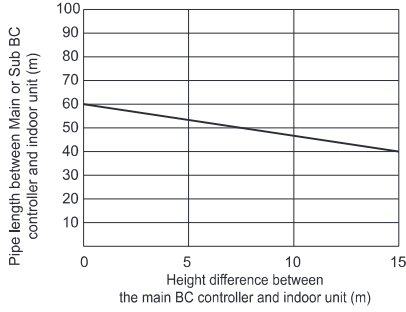

Fig. 1
- *2 Refer to Fig. 1. (However, when P/M200 or P/M250 model of indoor unit is connected, the maximum allowable distance between BC controller and farthest indoor unit is 40 m.)
- *3 When the piping length or the height difference exceeds the restriction specified in Fig. 1, connect a sub BC controller to the system. The restriction for a system with a sub BC controller is shown in Fig. 2. When a given system configuration falls within the shaded area in Fig. 2, increase the size of the high-pressure pipe and the liquid pipe between the main and sub BC controller by one size. When using P/M32, P/M40, P/M50, P/M100, or P/M125 model of indoor units, increase the size of the liquid branch pipe between the sub BC controller and indoor unit by one size. When using P/M140 or larger model of indoor units, the restriction shown in Fig. 1 cannot be exceeded.
***3** When the piping length or the height difference exceeds the restriction specified in Fig. 1, connect a sub BC controller to the system. The restriction for a system with a sub BC controller is shown in Fig. 2. When a given system configuration falls within the shaded area in Fig. 2, increase the size of the high-pressure pipe and the liquid pipe between the main and sub BC controller by one size. When using P/M32, P/M40, P/M50, P/M100, or P/M125 model of indoor units, increase the size of the liquid branch pipe between the sub BC controller and indoor unit by one size. When using P/M140 or larger model of indoor units, the restriction shown in Fig. 1 cannot be exceeded.